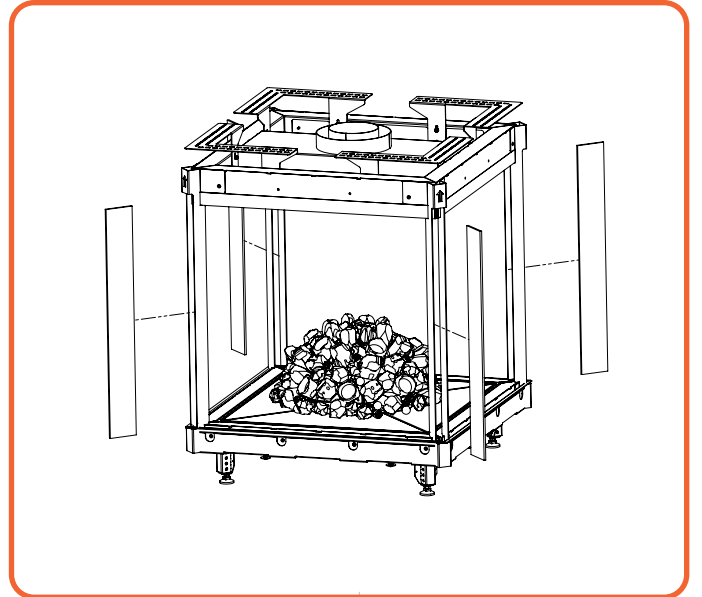

Figure 9.4 | Remove Corner Glass
- Before taking out the inner glasses the glass brackets at the top need to be unscrewed and removed, see Figure 9.4